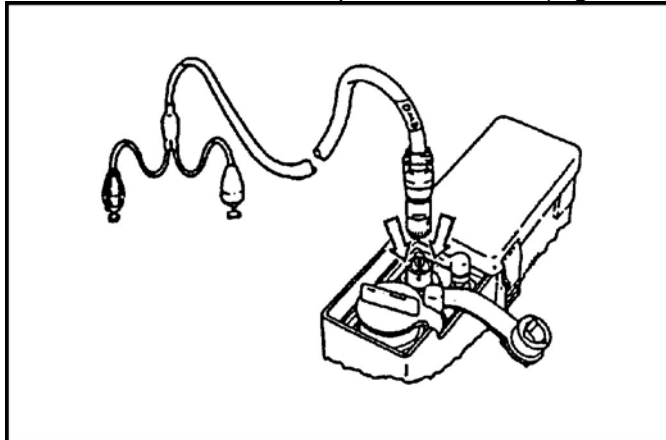

Figure 10. Attachment of cable to power connector.
- c. Plug the cable labeled DMD into the MBC power connector (Figure 10).